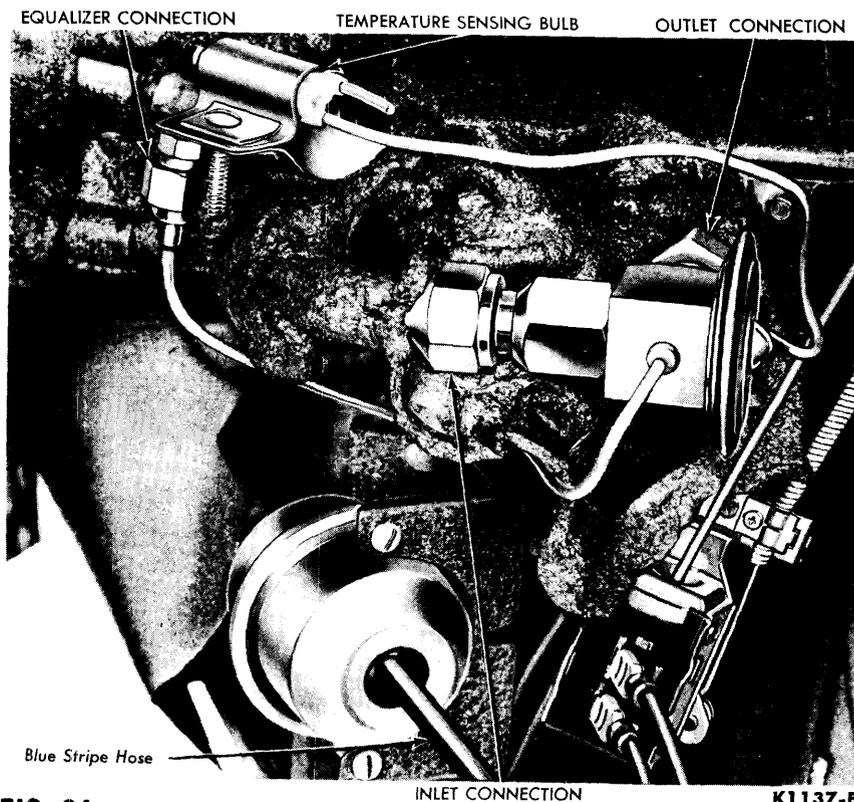

FIG. 24—Evaporator Connections
3. Remove the temperature sensing bulb clamp and bulb (Fig. 24).